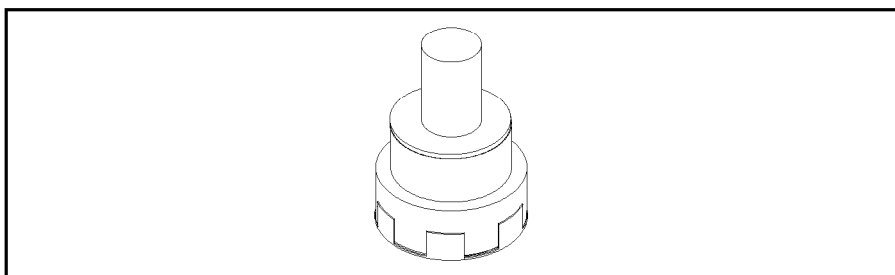

Figure 4-17. Placing Window on Cell Spring
4. Using the tweezers, lift the window, as you assembled it in step 2, and place it on top of the cell spring. Press down gently, so that the window and cell spring hold together, see Figure 4-17.